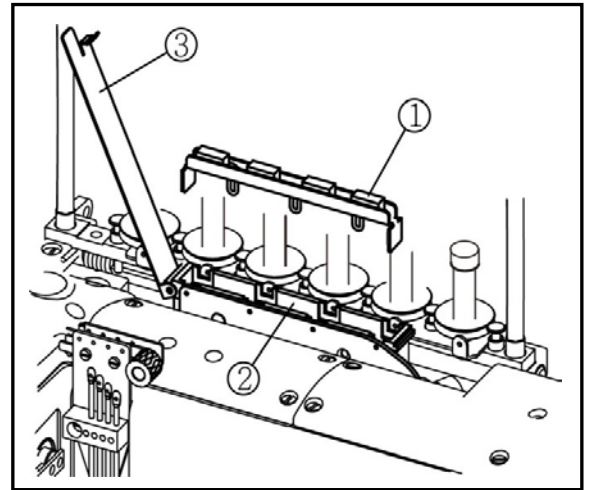

Fig. 34
Fix the felts ①, including accessories, into the SP tank ②. (Fig. 34)
If not enough, supply oil into the SP tank ②. (Fig. 34)